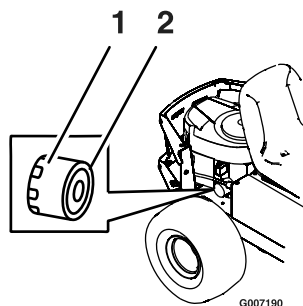

Figure 23
7. Remove the old filter and wipe off the mounting pad (Figure 23).
gasket contacts the pad, then tighten the filter an additional 1/2 to 3/4 turn (Figure 23).